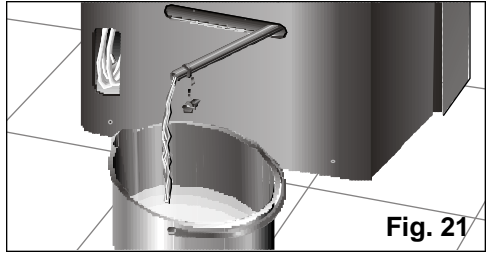

Fig. 21
- Place a bowl at the drainage pipe outlet and remove the plug to collect the condensed water, Fig. 21.